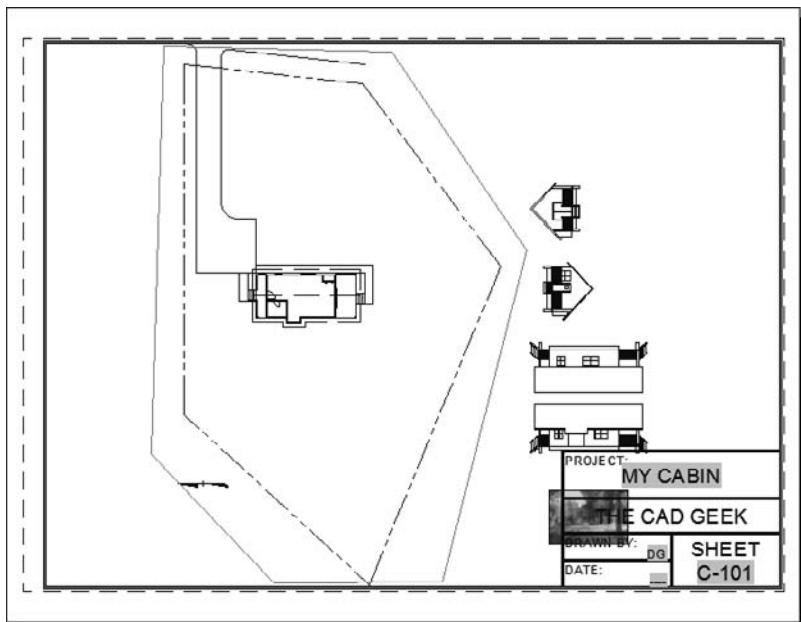

FIGURE 14.77 Draw a polyline around the property.
7. With the A-ANNO-NPLT layer still current; start the PLINE (Polyline) command and draw a closed polyline that roughly follows the shape of the property, as shown in Figure 14.77. The exact shape isn't important because the viewport scale isn't properly set yet.